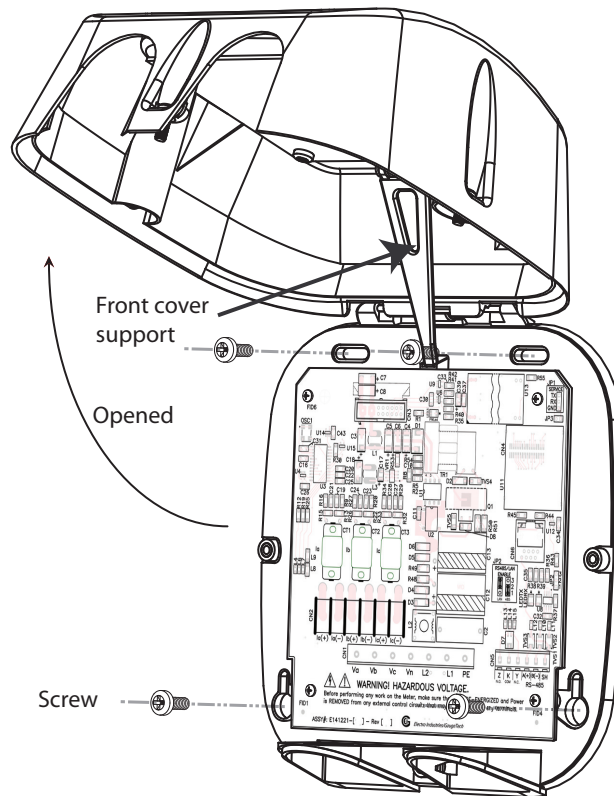

Figure 3.1: Shark Submeter with Cover Open
2. **With the submeter power off**, open the top of the submeter. Use the front cover support to keep the cover open as you perform the installation (see Figure 3.1).